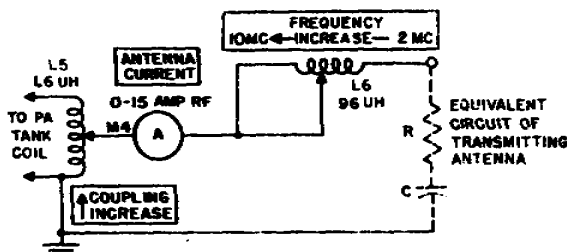

Figure 34. Antenna tuning unit with range switch in 2-10, M-C position.
a. Figure 34 is a functional schematic diagram of the tuning unit with range switch SW9 (SW9.1 and SW9.2) set to 2-10 M-C and a whip antenna connected to the unit. Since the antenna is electrically much shorter than a quarter wave length, it presents a highly capacitive load to